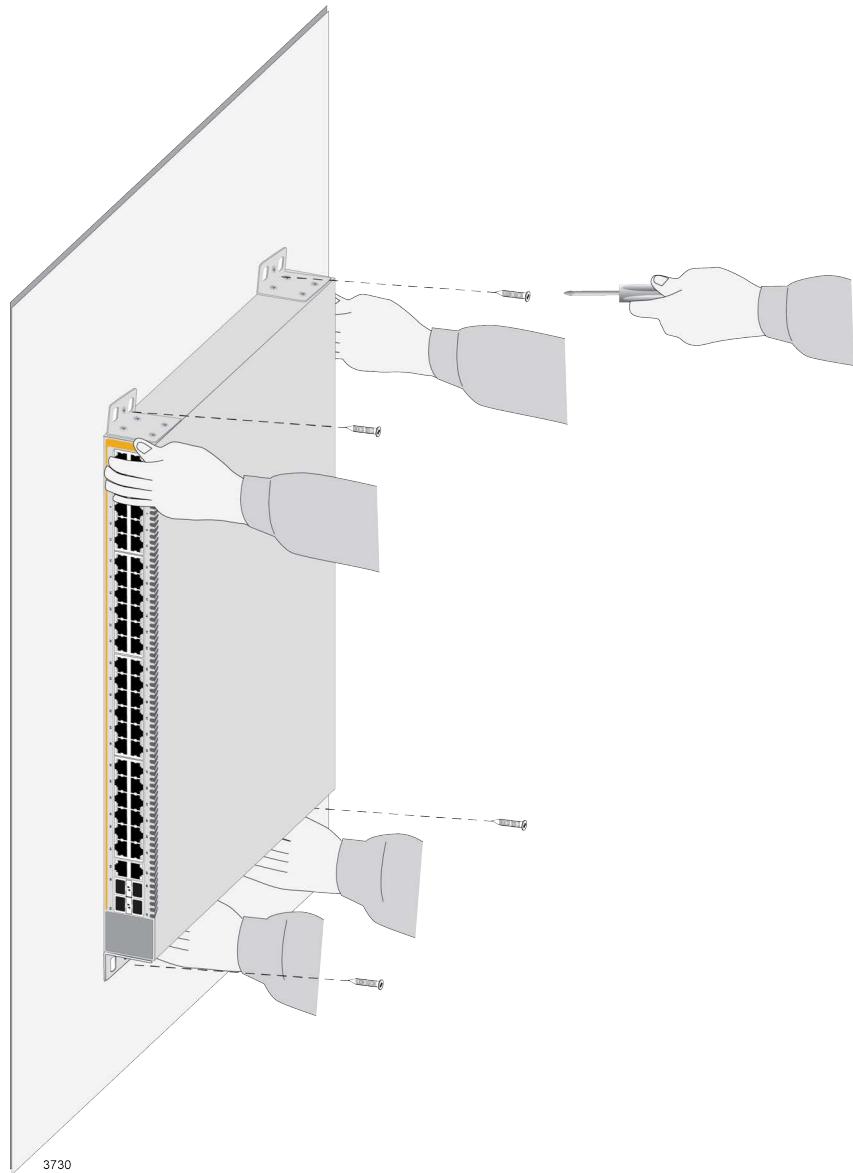

Figure 52. Installing the Switch on a Concrete Wall
7. Have two people hold the switch at the selected wall location while you secure it with the four provided screws. Refer to Figure 52.